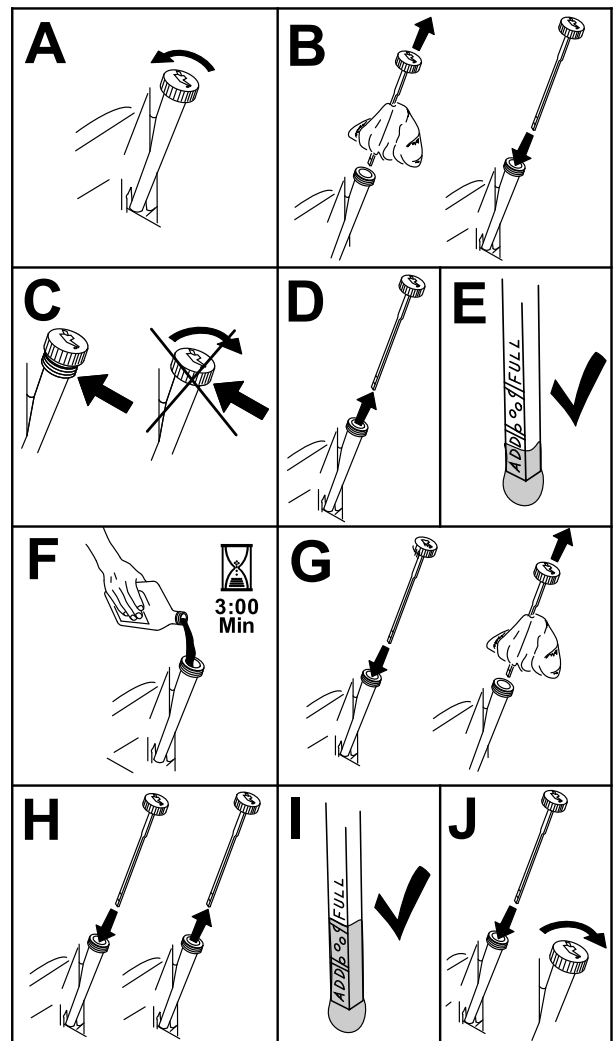

Figure 51
3. To keep dirt, grass clippings, etc., out of the engine, clean the area around the oil-fill cap and dipstick before removing it (Figure 51).